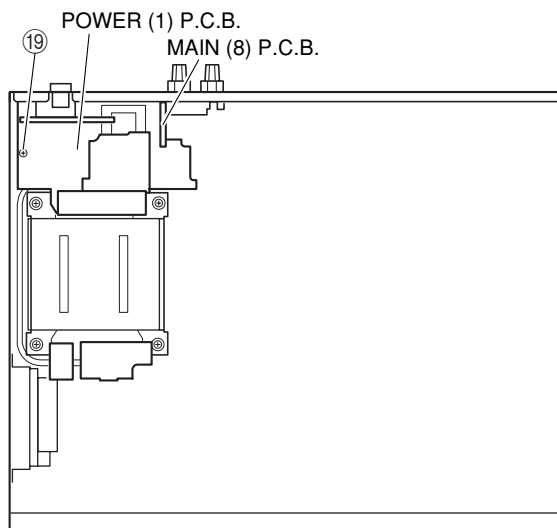

Fig. 7
- Remove 1 screw (⑬) and 4 screws (⑭). (Fig. 7)